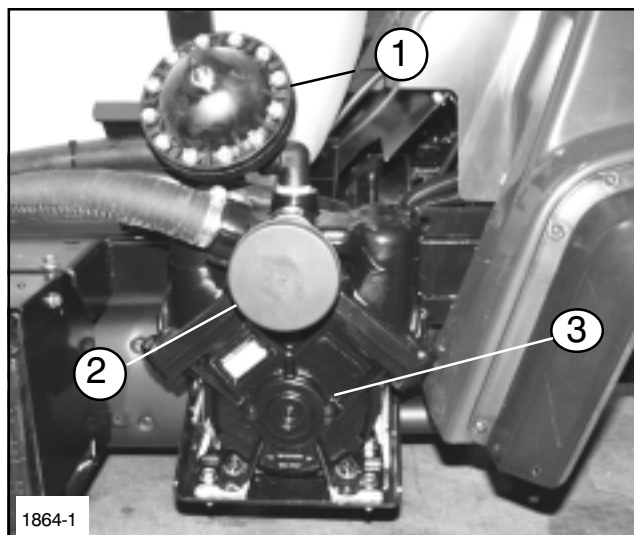

FIG. 5
PUMP ASSEMBLY (FIG 5)
12. PRESSURE DAMPENER: Smooths pressure pulsation in spray system. See FIG. 5.
13. SUCTION DAMPENER: Prevents Pump cavitation. See FIG. 5.